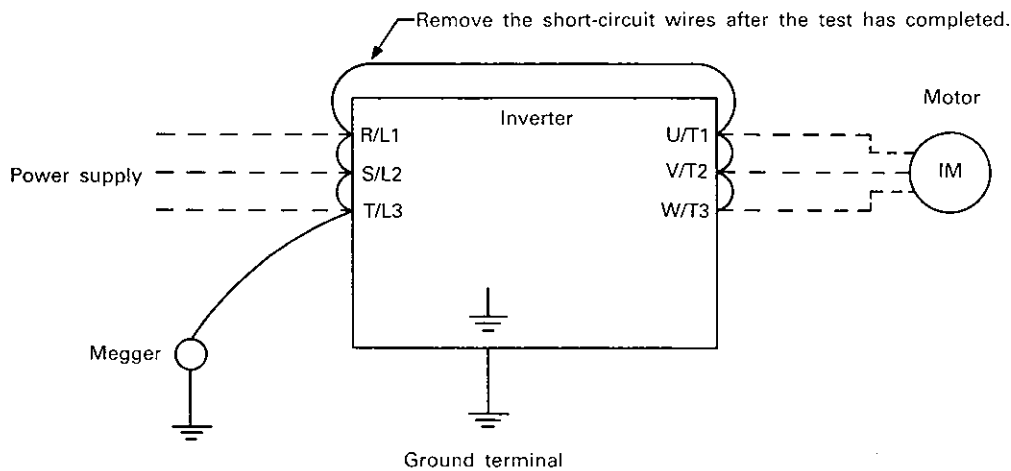

Fig. 7.1 Insulation Resistance Test with Megger
- Execute the insulation resistance test of inverter only for the main circuit as shown in Fig. 7.1. Do not execute the test for the control circuit.